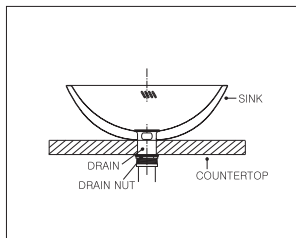

Figure 5
1. Unpack the new sink and check the contents of the materials supplied: (1) sink, Mounting brackets, cutout template.
5. Countertop Installation (Vessel sink) (Figure 5)